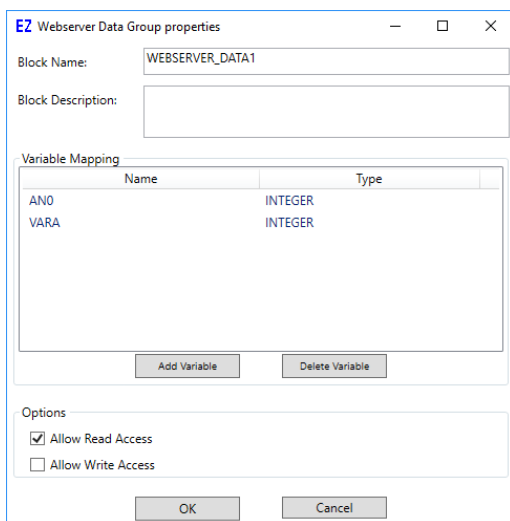

Figure 24-5
4. Add the variables and select the options as needed. Refer to Figure 24-5.